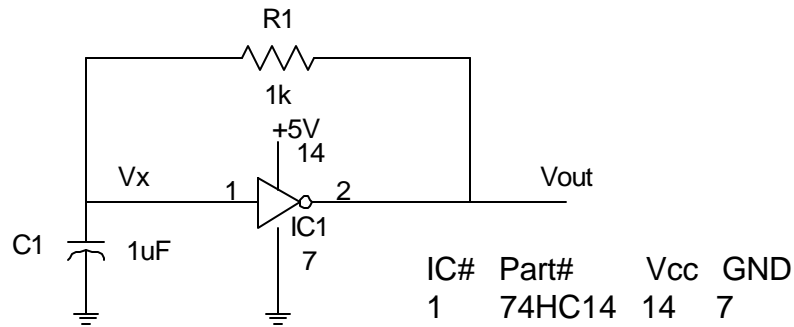

Figure 0.1 Schmitt gate digital clock
- Assemble the circuit of Figure 0.1